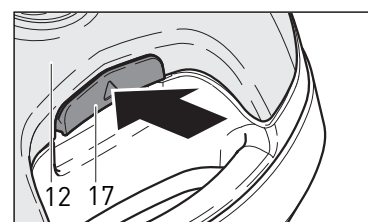
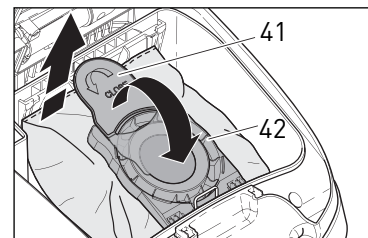
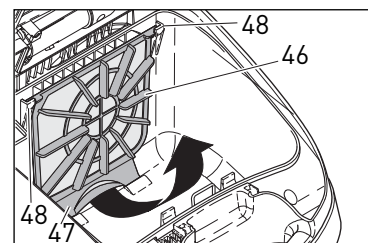

Figure 20
Figure 21
Figure 23
## Changing the Filter Bag - Figures 20, 21 & 22
To change the filter bag (40), lift the filter bag release catch (17, figure 20) then lift open the filter bag cover (12). Seal the used filter bag with the sealing cap (41). Tilt the green sealing plate collar up (42, figure 21) and lift the bag out. Slide the front of the sealing plate (42) of a new bag vertically into the bag holder (43, figure 22). Line up the sealing plate so that the U-shaped metal spring (44) is positioned in the slot (44) of the collar and tilt it back into place. Close the cover, making sure it snaps shut completely. The cover will not close if the bag is inserted improperly. Do not re-use the filter bags. **Note:** The nature of the contents of the filter bag will affect the point at which it needs changing. Fine dust may require an earlier change even though the bag is not full. Fluff or hair allows air to pass through easily, so the filter bag may overfill before the “bag full” indicator turns orange.
## Changing the Pre-motor Filter - Figure 23
The pre-motor filter (46) needs to be changed when it becomes extremely dirty or clogged with dust, or after approximately 10 to 20 filter bags have been used. To change the pre-motor filter, lift the filter bag release catch (17, figure 20), lift open the filter bag cover (12) and remove the filter bag. Grasp the tab at the bottom of the filter (47, figure 23) and pull the filter out and up. When the filter is horizontal, lift it out of the holder (48). Insert the new filter into the holder horizontally (48) then swing it downward until the tab (47) locks in place. Replace the filter bag and the filter bag cover.
3. Pre-motor filter not properly inserted.	3. Remove the filter bag and make sure the pre-motor filter is seated firmly in place (see pg. 11, figure 23).